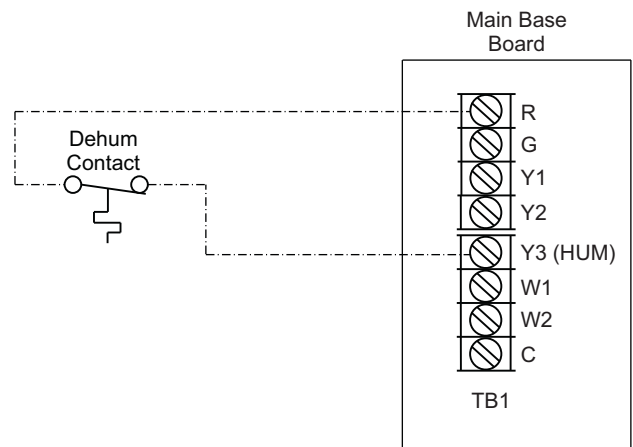

Fig. 54 — Humidistat Connections to MBB (2-Stage SystemVu Units)
4. For 2-Stage SystemVu controller units connect one of the leads from the 2-conductor cable to the Y3 (HUM) terminal on the MBB (Main Base Board). Connect the other lead to the R terminal on the MBB. See Fig. 54.